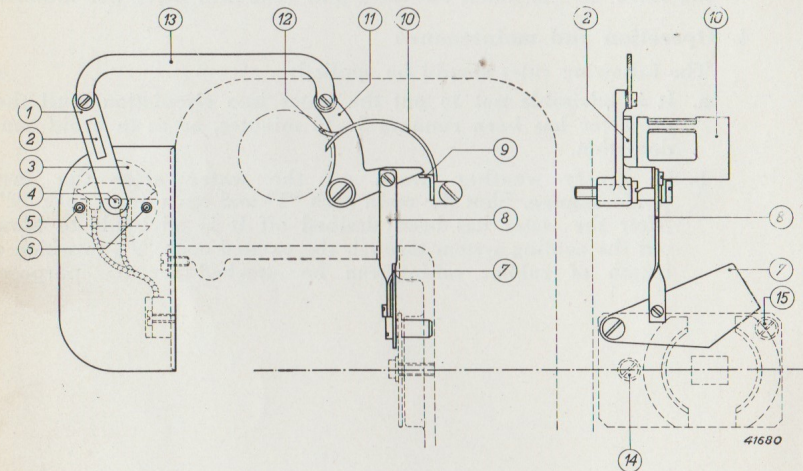

Fig. 13
- For the manner of mounting see fig. 13 and for the electrical connections see sheets AA.B, figs 5 and 8.